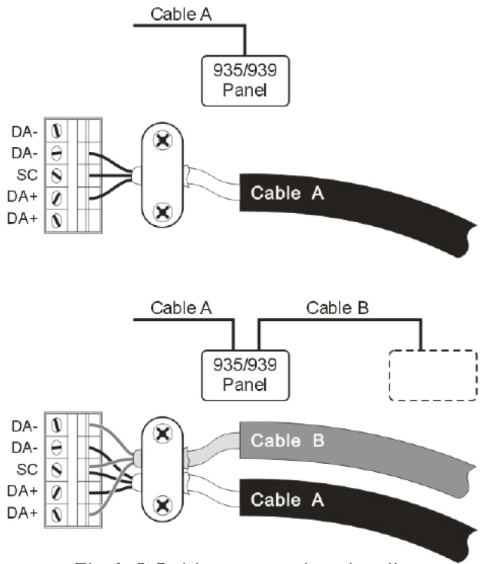

Fig.1-2 Cable connection details
- 3. Insert each data conductor into the appropriate terminal (see Fig.1-2) and tighten the terminal screw.